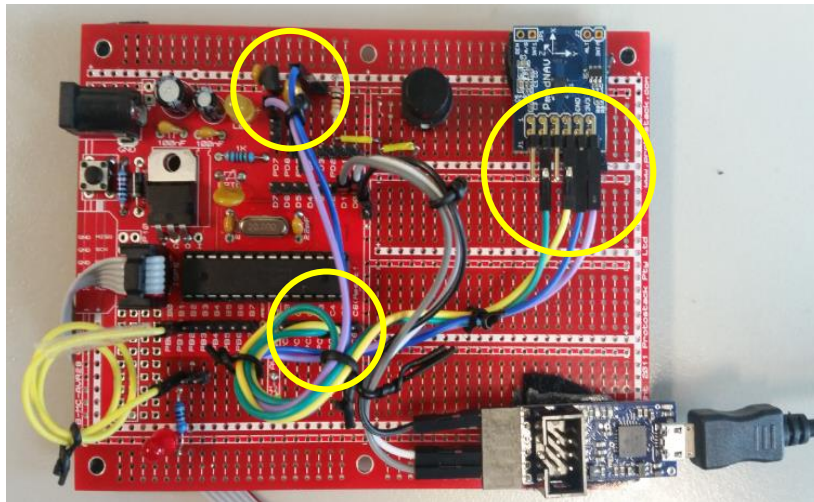

Figure 6. An example of IMU TWI connection to Atmega328 Board.
- An example of the final Atmega board is shown in Figure 6.